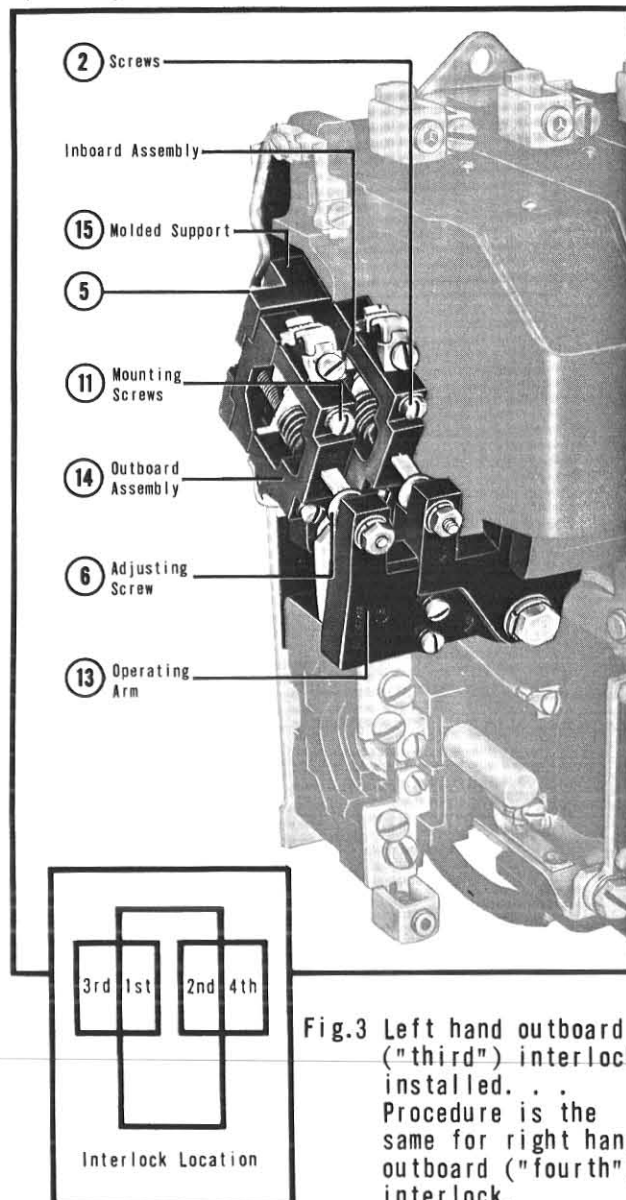

Fig. 3 Left hand outboard ("third") interlock installed. . . . Procedure is the same for right hand outboard ("fourth") interlock.
3. Mount the outboard interlock contact assembly (14) on the support (15) and secure it by screws (11) and two nuts (5) previously removed from inboard interlock. See Fig. 3.
4. Fasten the operating arm (13) on the moving crossbar of the contactor with screws (12) and two nuts (9), two washers (8) and two washers (10). Make sure flat washer bears against molded surface of arm (13). Install the conical adjusting screw (6) with two nuts (9) and washer (7) and (8), with wide flat washer bearing against molded material.